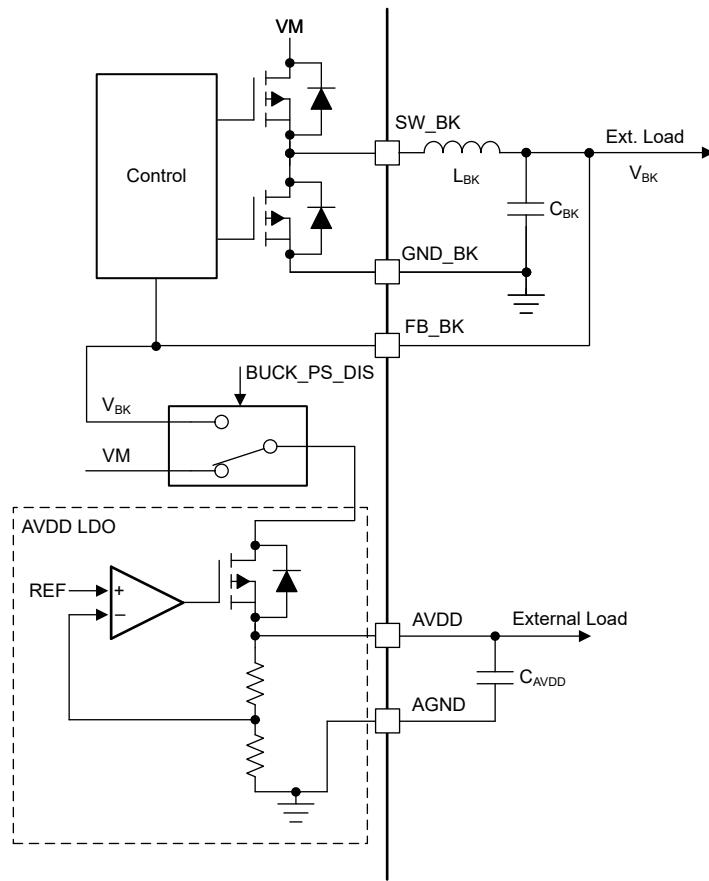

Figure 7-5. AVDD Power Sequencing from Mixed Mode Buck Regulator
The AVDD LDO has an option of using the power supply from mixed mode buck regulator to reduce the device power dissipation. The power sequencing mode allows on-the-fly changeover of AVDD LDO input from DC mains (VM) to buck output (V_BK) as shown in Figure 7-5. This sequencing can be configured through the BUCK_PS_DIS bit. Power sequencing is supported only when buck output voltage is set to 5-V or 5.7-V.